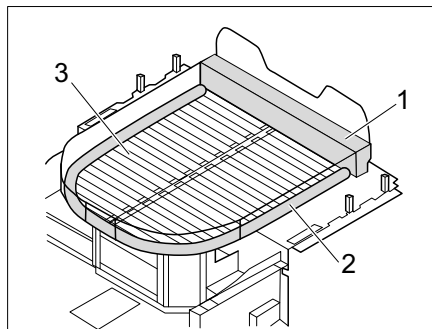

Fig. 182 Bed with mattress extension (with additional mattress and bed slats)
- Place the additional mattresses (Fig. 182,1 and 2) on the front side and around the queen size bed.
- Pull out the bed slats (Fig. 182,3).